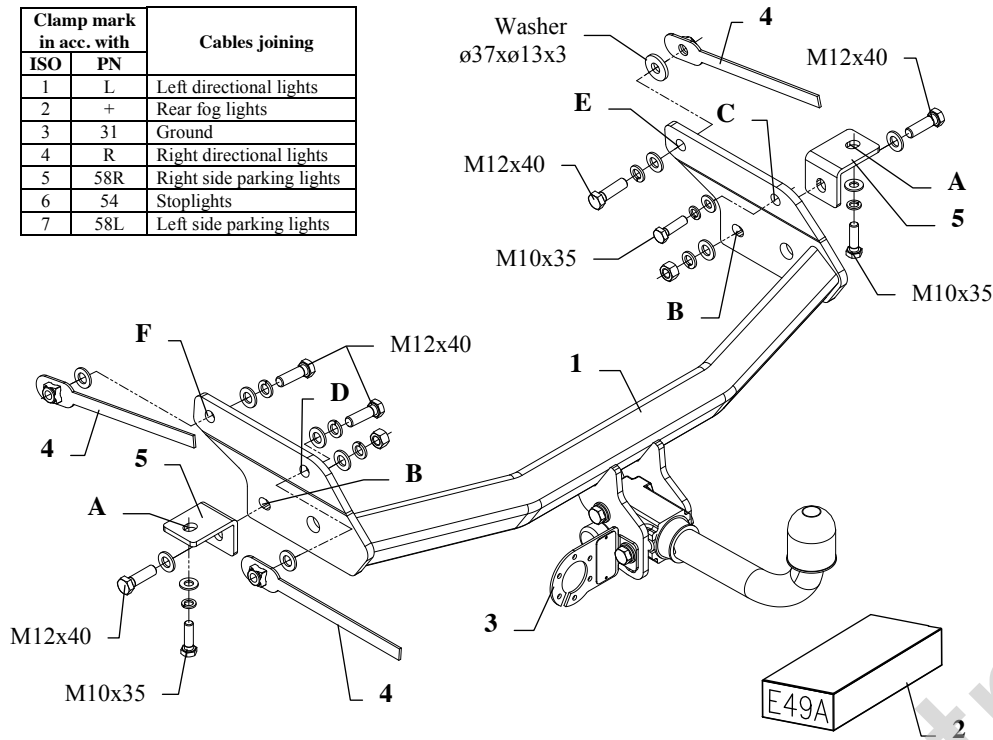
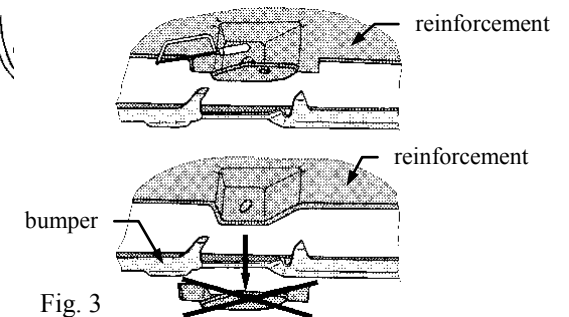

Fig. 1
Fig. 3
**For Chevrolet Trans Sport:** Underneath the bumper, in central section cut out its fragment: width 80mm and depth 40mm. Cut out fragment of bumper reinforcement according to figure 3. Disassemble original towing eye. Put the pin for the rearmost exhaust through hole ø19mm in towing hitch brackets. Mount the towing hitch together with the towing eye on the car.
3. Between installed angle bars put the main bar of the towing hitch (pos. 1) and fix using bolts M12x40mm (pos. 6) through holes (pos. B).
4. On the right side insert bolt M10x35mm in point (pos. C). On the left side insert bolt M12x40mm through hole (pos. D), use nut on the jib (pos. 4). Position the towing hitch horizontally. Drill holes (pos. E and F) in chassis members using bit ø13mm.
5. Fix the main bar of the towing hitch through holes (pos. E and F) using bolts M12x40mm and nuts on the jibs (pos. 4). On the left side remember about big washer ø37xø13x3mm (pos. 8), see figure 1.
6. Fix body of the automat and the socket plate (pos. 3) using bolts M12x25mm from accessories. Place tow-ball according to supplied instruction.